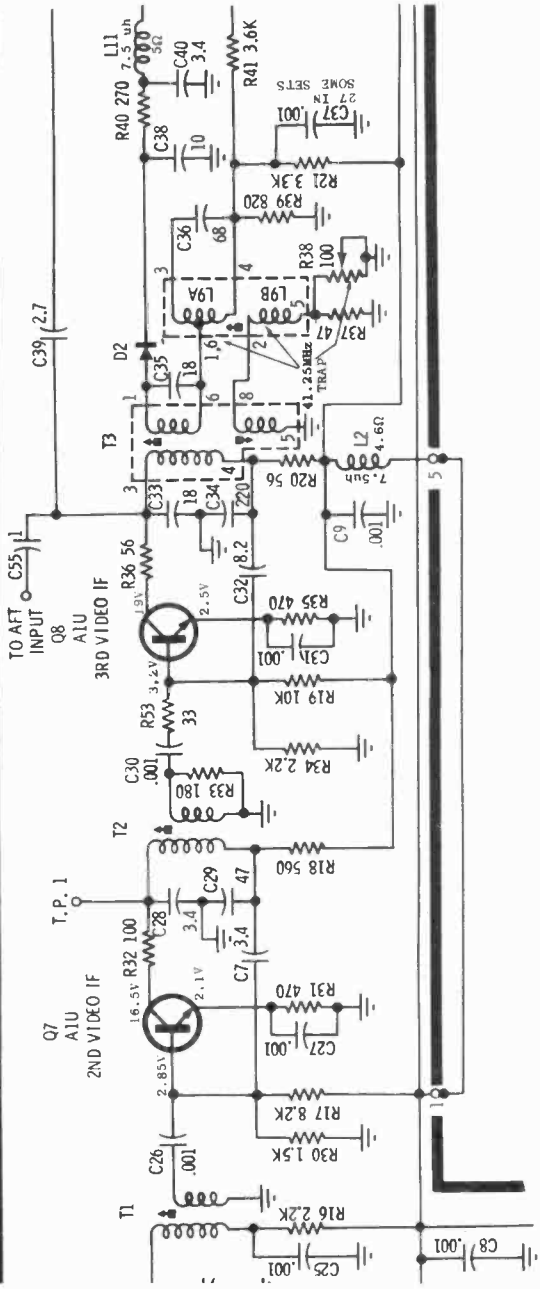

Fig. 5-15. Motorola CTV7 and 8 transistorized video IF strip.
From the world of vacuum tubes to that of transistors isn't such an enormous transition as one might expect (Fig. 5-15).
20. Why do you suppose T3 in Fig. 5-15 is double tuned?